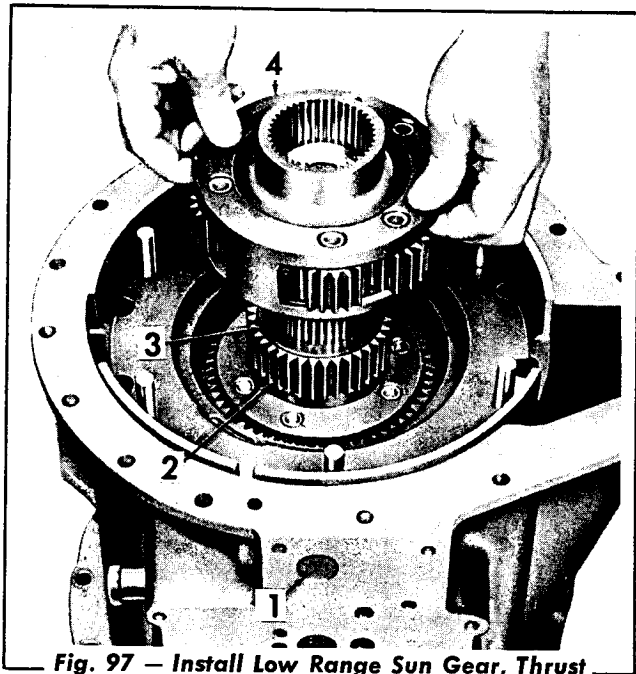

Fig. 97 – Install Low Range Sun Gear, Thrust Washer and Planetary Carrier Assembly
13. Install the clutch anchor pin (Fig. 97). Install the low range sun gear, the thrust washer, and the low range planetary carrier assembly, aligning the carrier pinions with the sun gear.